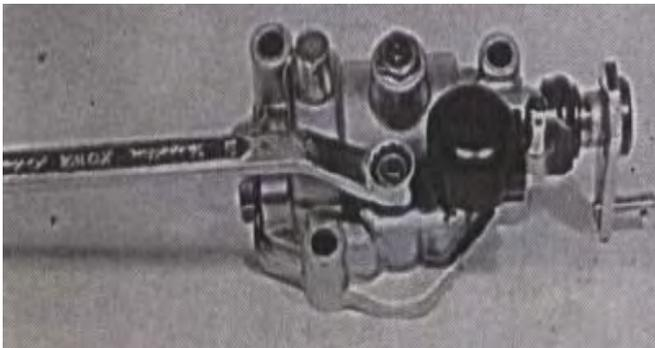

Fig10-105
- (3) Remove select shaft lever and select shaft. (FIG.10-105)